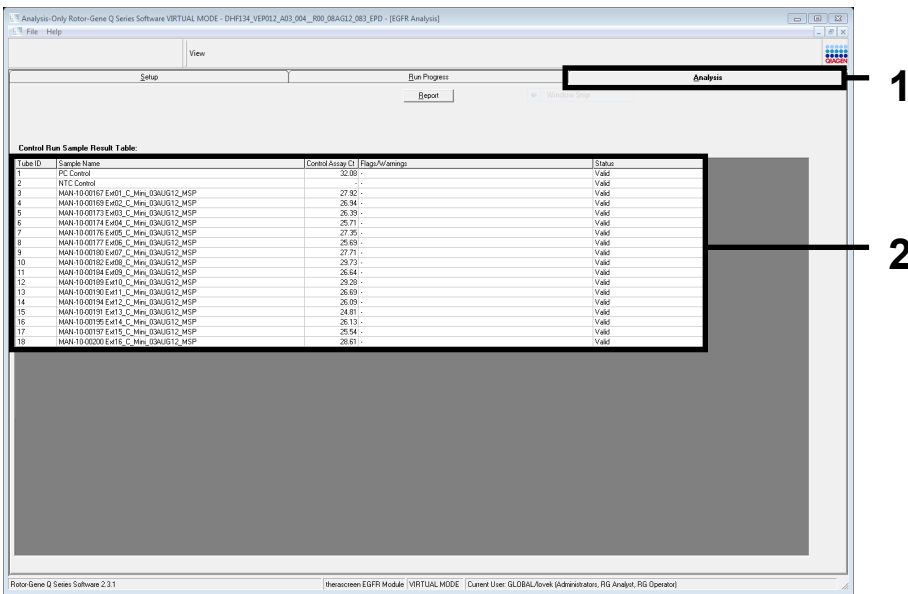

Figure 8. The “Analysis” tab (1) and reporting of results (2 = “Sample QC Result Table”).
**Note:** If the “Analysis” tab fails to open, click the “Analysis” tab (Figure 8).
20. Control results are reported as follows in the “Sample QC Result Table” (Figure 8).